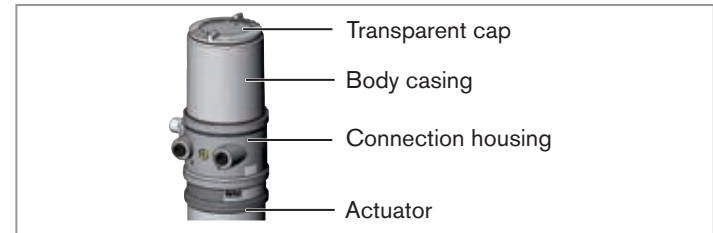

Fig. 12: Open control head
- ▶ When unscrewing and screwing in the transparent cap, do not hold the actuator of the process valve but the connection housing (see "Fig. 12: Open control head").